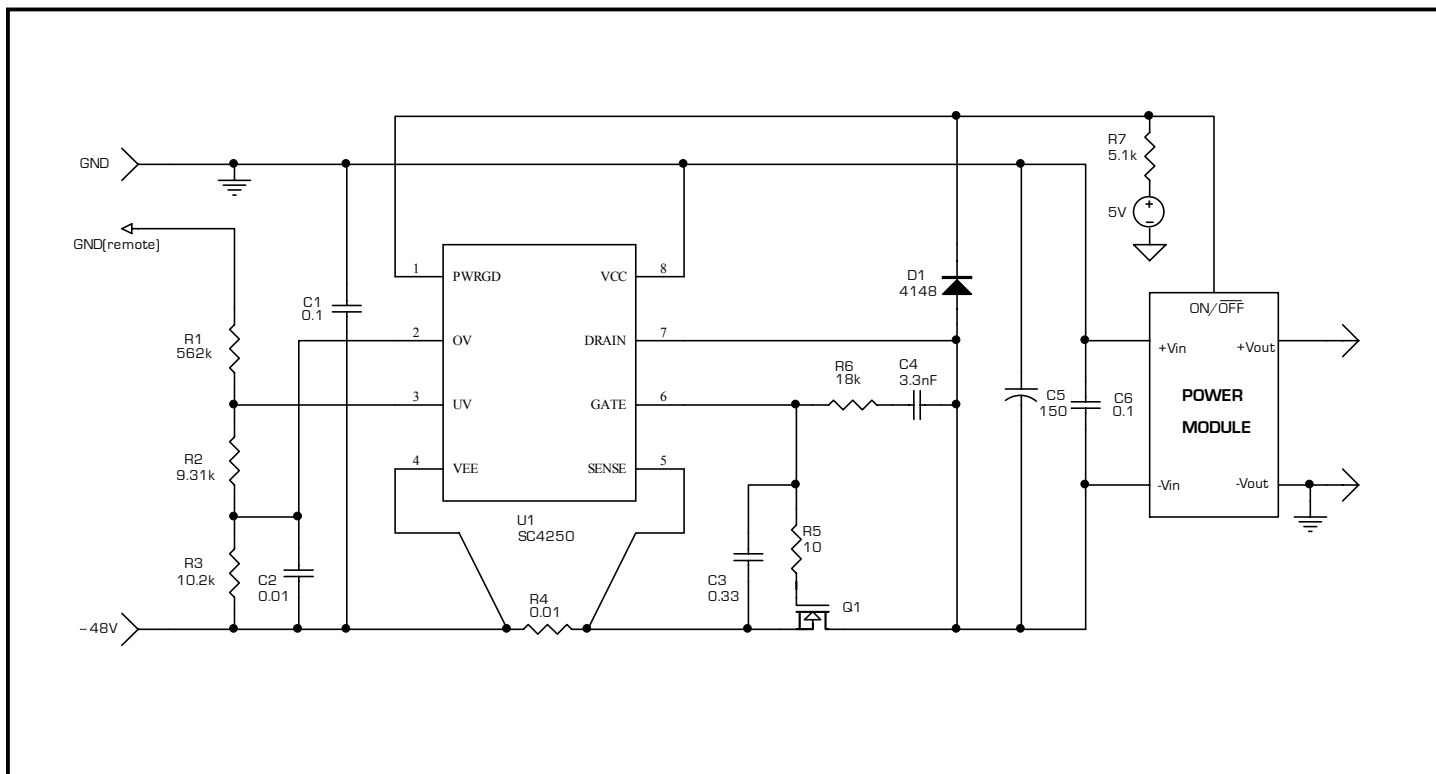

Figure 4. Active High PWRGD Module
(1) This device is ESD sensitive. Use of standard ESD handling precaution is required.
(2) The clamp diode must be present at  $V_{DRAIN}$  to PWRGD (see Fig. 4).
PWRGD signal can be used to directly enable a power module with active high “ON/OFF”. The DC-DC converters usually have a pull-up circuits built-in, as well as internal clamp. The schematic in Figure 4 shows a general case of employing PWRGD signal with external current source (1mA) and a diode clamp **D1**.